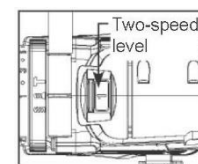

Fig. 9
The drill has a two-speed level designed for drilling or driving at "High (1)" or "Low (2)" speeds. A slide level is located on top of the drill to select either "High (1)" or "Low (2)" speed. When using drill in the "Low (2)" speed range, speed will decrease and unit will have more power and torque. When using drill in the "High (1)" speed range, speed will increase and unit will have less power and torque. Use "Low (2)" speed for high power and torque applications and "High (1)" speed for fast drilling or driving applications. (Fig. 9)